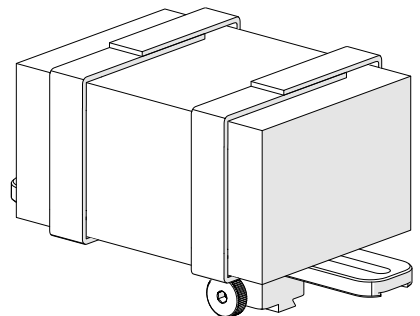

Fig. 77 - Velcro wrapped around preamp
3. Secure the preamp to the bracket attaching each side of the velcro (Fig. 77).